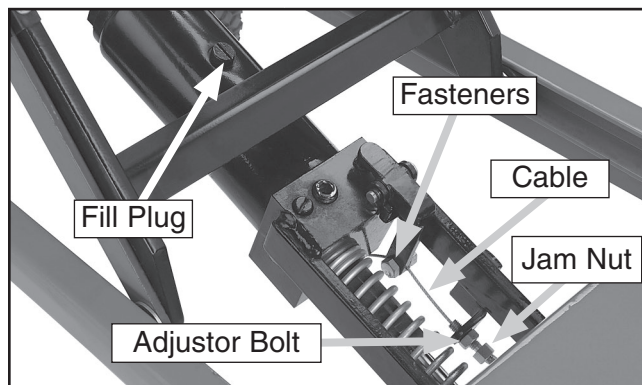

Figure 5. Fill plug location.
1. Loosen the fasteners (**Figure 5**) securing the cable when the table is lowered completely.